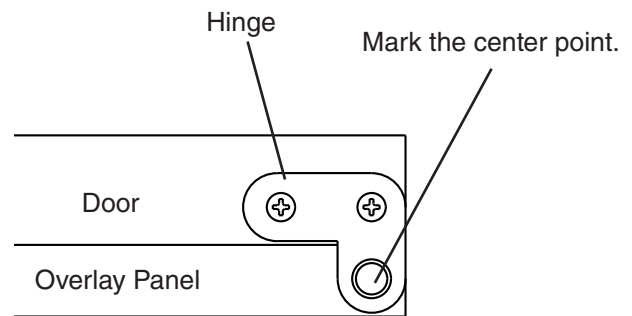

**Fig. 17**
- 8) Remove the gasket from the door. See Fig. 17.